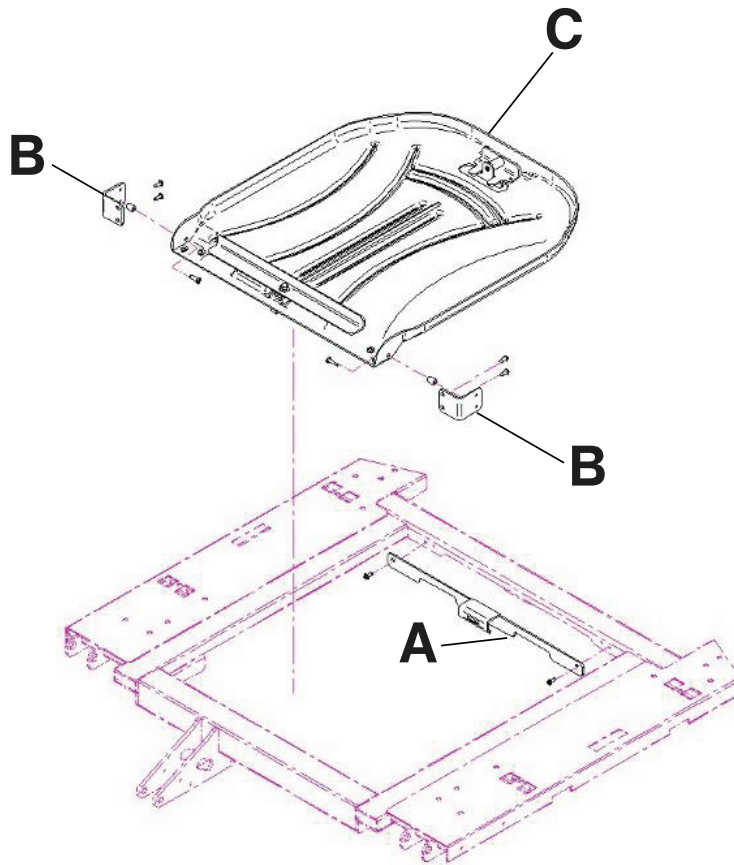

Figure 105: X-ray cassette holder
3. Turn the battery switch to the OFF (O) position.
5. Using a #2 Phillips screwdriver, install two screws to secure the fastener (A) to the top of the fowler frame (Figure 105 on page 108).
6. Using a #2 Phillips screwdriver, install four screws to secure the two cassette holder pivot brackets (B) into the lower fowler section (Figure 105 on page 108).
7. Using a #2 Phillips screwdriver, install two screws and two spacers to secure the X-ray cassette holder (C) into the cassette holder pivot brackets (B) (Figure 105 on page 108).